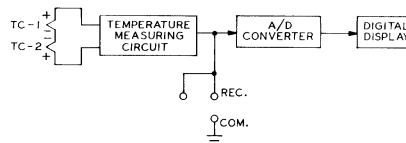

Figure 5-3. Differential Temperature Measurement Mode
5.2.2 Differential Temperature Measurement Mode: The basic circuit is shown in Figure 5-3. The temperatures being "compared" are connected, as thermocouple output voltages (DC), to input jacks TC-1 and TC-2. These jacks connect the thermocouple output voltages in a series, polarity opposing arrangement. The resultant voltage is conditioned according to the range selected (LO/HI and F°/C°) and applied to the A/D Converter. (See paragraph 5.2.1, last sentence.)